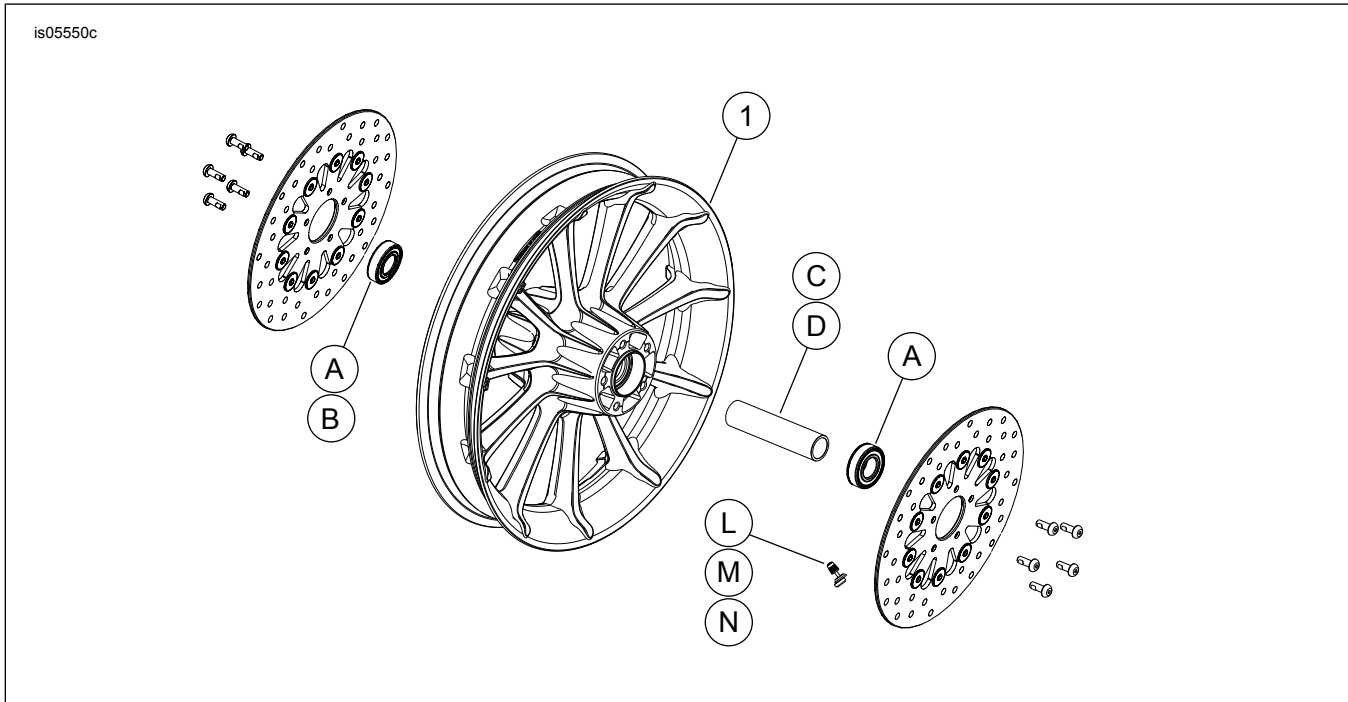

Figure 1. Service Parts: Roulette Wheel Kits
2. See Figure 1. Install valve stem assembly (M) on wheel. Refer to TIRES in service manual.